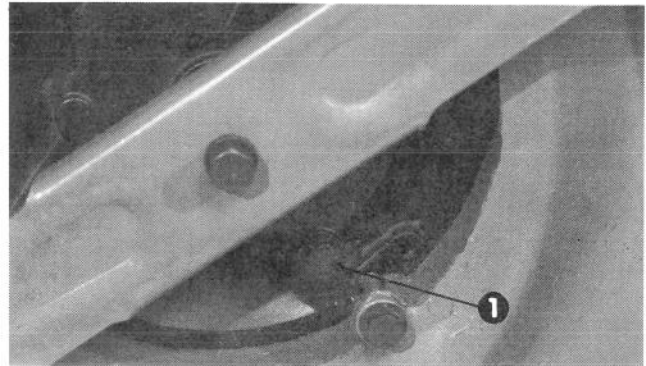

Figure 24
3. Tip mower on its left side and rotate blade until oil drain plug is exposed (Fig. 24).
4. Clean area around drain plug. Using 7/16-inch open end wrench, remove drain plug (Fig. 24). Gradually tip mower back to its normal position so oil flows into drain pan.